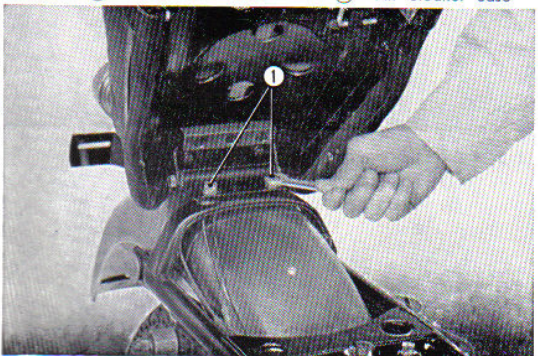

Fig. 4.43 Removing the seat
1. Raise the seat and remove the two bolts at the seat hinge and separate seat from the frame. (Fig. 4.43)